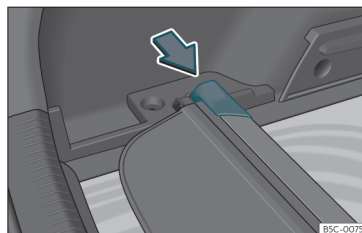

Fig. 112 In the luggage compartment: space to store the retractable shelf.
- Press the head of the retractable shelf in the direction of the arrow until it engages in its housing»» **Fig. 112**.